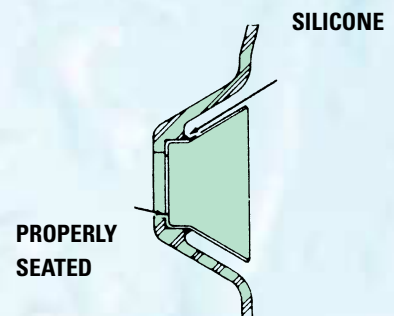

Fig. 8
**D.** Remove surplus silicone FITV from insert cavity (see Fig. 8).